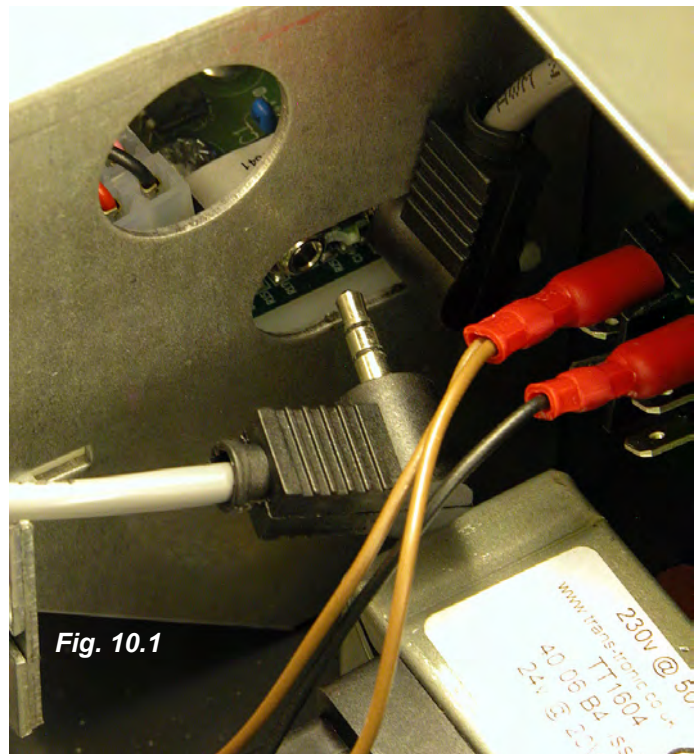

Fig. 10.1
- Using the supplied cables, pass them through the upper rear panel grommet and daisy chain the heater adapter PCBs together. The first and last heater in the 'chain' will use the terminator plugs to fill their 2 unused sockets. There are 2 different coloured terminators, they can be placed in either the first or last heater in the group. NB. ensure the connectors are fully inserted (Fig. 10.1)